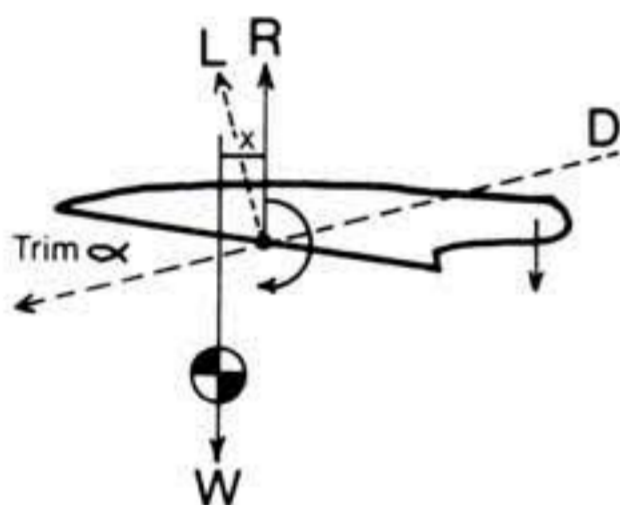
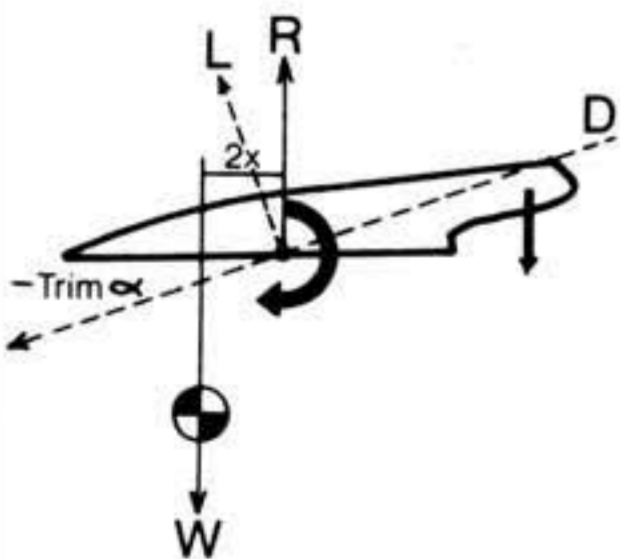

Fig. 10 Forces at work in trimmed flight.
Fig. 11 Forces at work at high speed trim.
6.2 A closer look at the forces at work on a stable glider reveals that at trim angle of attack (hands off), the CG is forward of the AC by x , which exactly balances the positive pitching of the wing to zero. See Fig.10.
glider will speed up. See Fig.11. As it speeds up the tips will contribute less to the total lift of the glider because of their lowered angle of attack, and increased positive pitching around the AC will occur until a new stable equilibrium is reached. In effect this will be a steeper glide angle than Fig.10 and bar pressure on the hands will indicate that the glider wants to return to the trim angle of attack. On a stable glider, letting go of the bar at this stage will do just that.